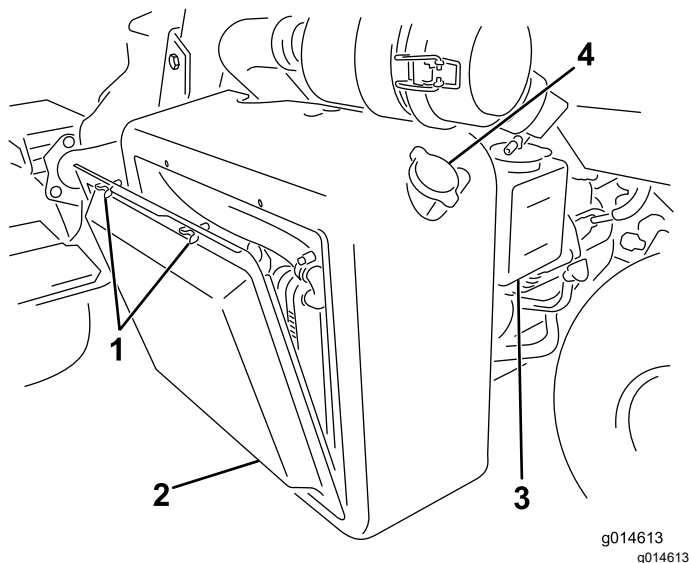
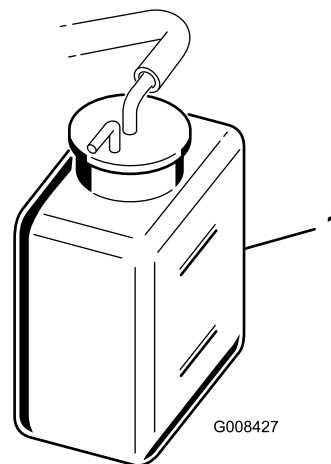

Figure 48
Figure 49
1. Remove the radiator screen (Figure 48).
2. Check the coolant level (Figure 48 and Figure 49).